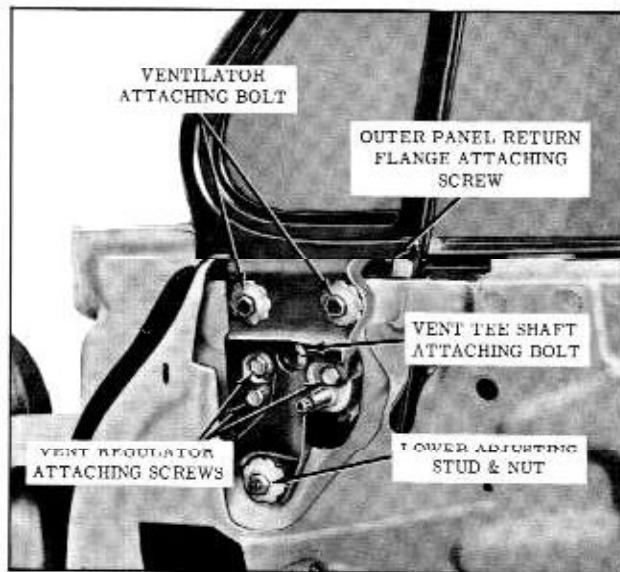

Fig. 17-32 Front Door Ventilator
3. Remove ventilator tee shaft attaching bolt and ventilator regulator attaching screws. (Fig. 17-32)
1. Excessive "play" (flutter) of ventilator at pivot shaft when ventilator is in open position, can be corrected by tightening ventilator tee shaft to regulator shaft attaching bolt. (Fig. 17-32)